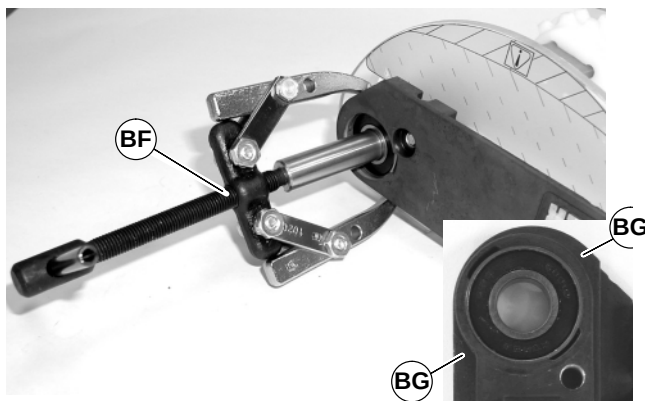

Figure 38
5. With bearing removal tool, (BF of Figure 38), part number 807-1078, remove head plate from drive shaft side of pulley. Connect tool jaws at indicated points (BG).